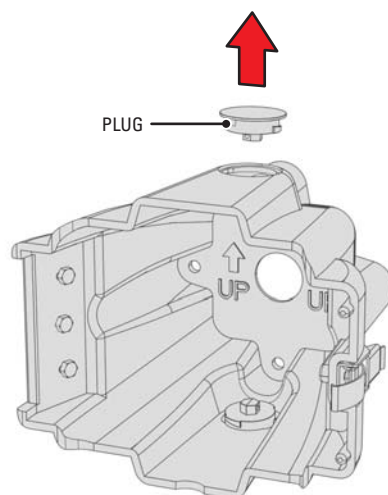

Figure 16. Removing an Auxiliary Opening Plug
5. *If using an auxiliary opening for cables:* Remove the plug from the appropriate opening in the J-box (refer to Figure 16). Use a 7/16-inch wrench.